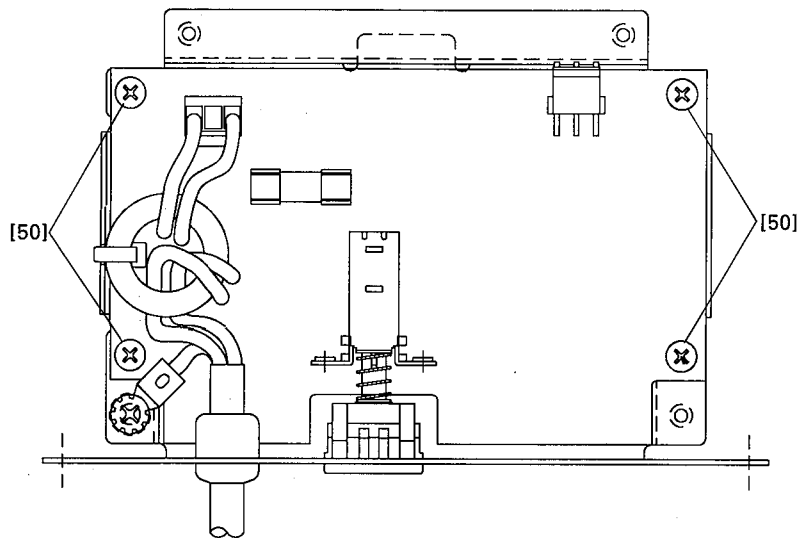

Fig.13 (図13)
- 10-3 Remove the four screws marked [50]. The AC circuit board with the POWER switch knob can then be removed. (Fig. 13)
- 10-3 [50]のネジ4本を外し、AC シートを外します。(図13)